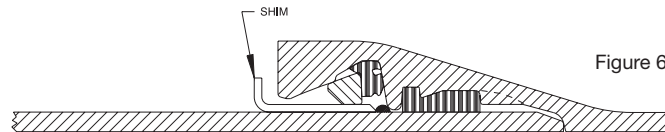

Figure 6
5. Remove the starter wedges from between the locking segment and spigot, leaving the shim(s) in place. (Fig. 6) Note that the wedges are reused for each locking segment.